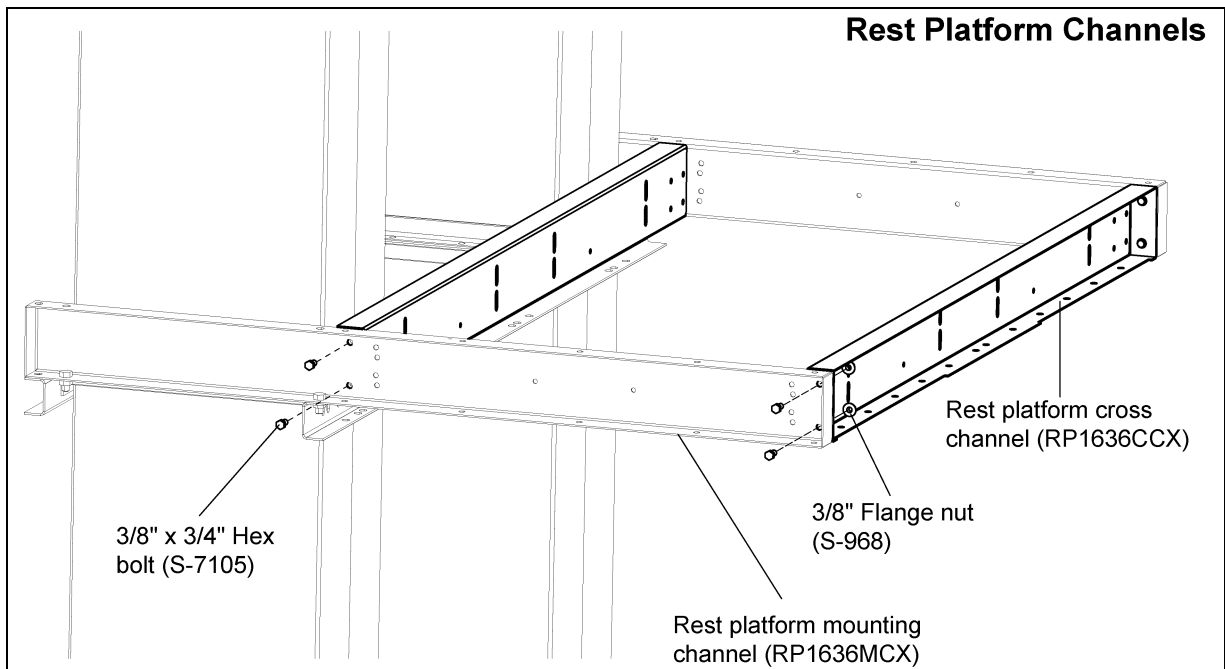

Figure 7F Rest Platform Cross Channel to Rest Platform Mounting Channels
1. Place the rest platform cross channels between the rest platform mounting channels and connect those using 3/8" x 3/4" hex bolts. (See Figure 7F.)